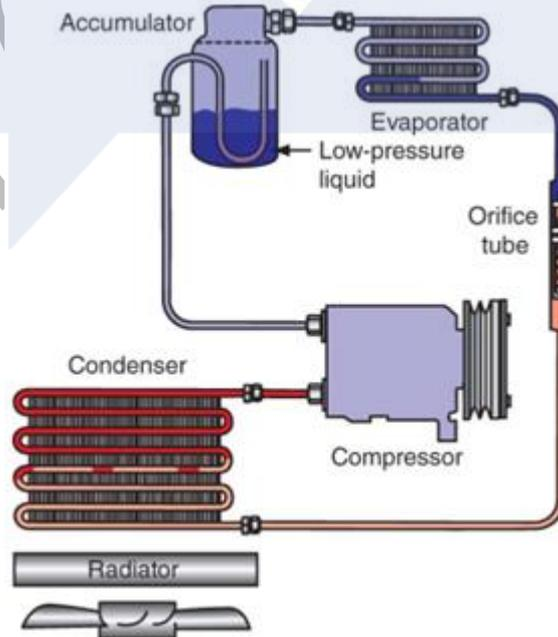

Figure 6
- 4.3 Give TWO (2) possible faults that causes a differential unit to be noisy (3marks)
5. Figure 6 represents an air conditioning system